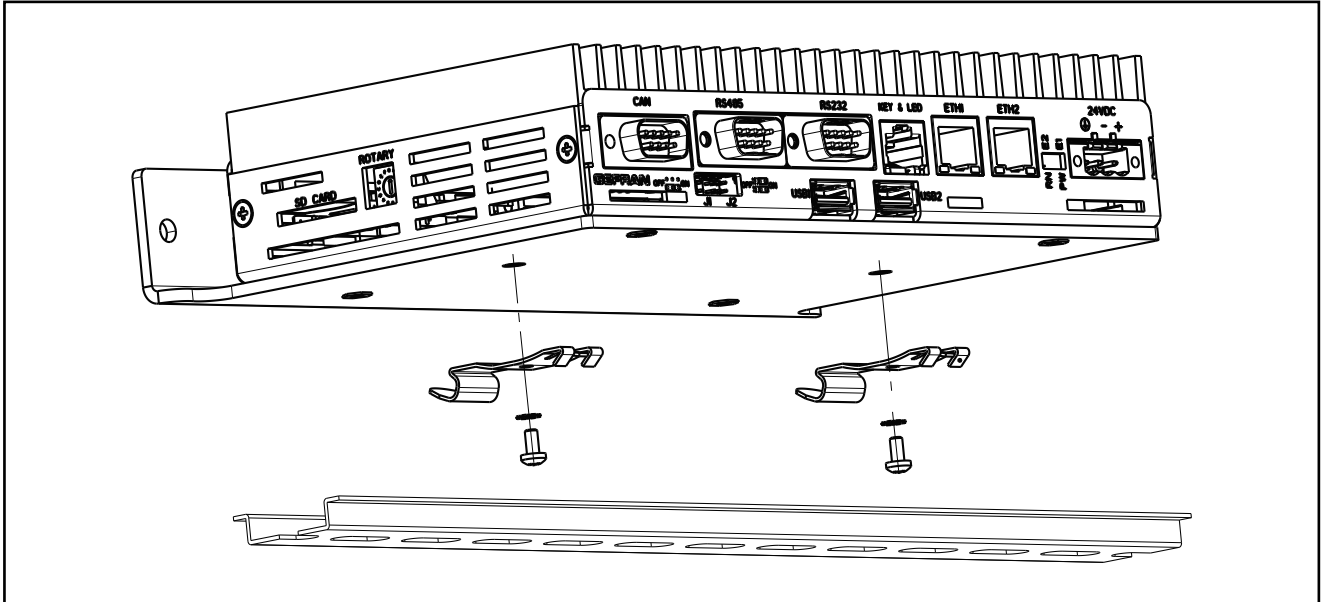

Figure 12 - Installation on DIN track
- horizontal on DIN 35 mm track, Fig.12.
Install the 2 brackets for the DIN 35 track as shown in Fig.12. Fasten the product and press hard to complete the operation, rotating downwards.